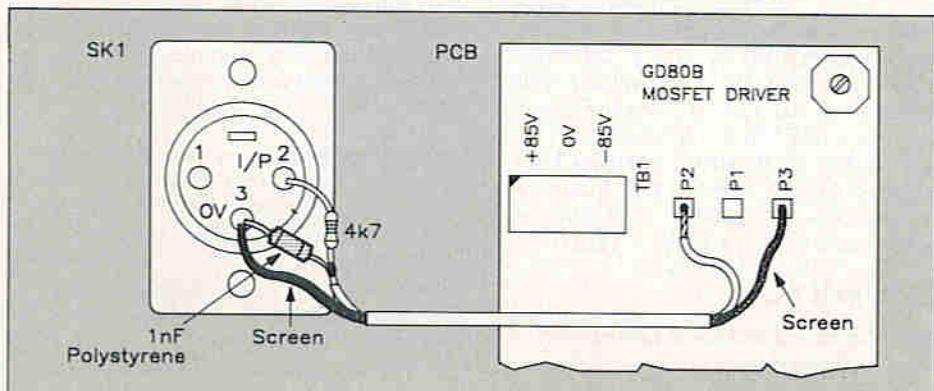

Figure 2. Fitting a low pass RC filter.
4. Fit a low pass RC filter between the input XLR socket, SK1, and the input pins of the Driver module as shown in Figure 2. The simplest way to install the filter is to solder the two components straight onto the back of SK1 with an 4k7 resistor (M4K7) soldered to pin 2 and 1000pF (1nF) capacitor (BX56L) to pin 3. Solder the two unterminated leads together and connect the core of the input screened cable to them. Connect the cable screen to pin 3 on SK1. The remaining end of the cable is fitted as per the original project instructions.